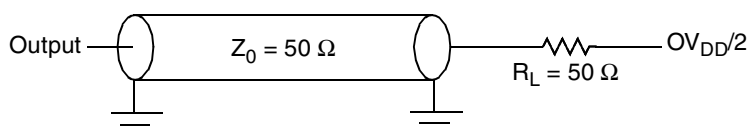

Figure 14. Local Bus C Test Load
Figure 14 provides the AC test load for the local bus.
1. All outputs are measured from the midpoint voltage of the falling/rising edge of  $t_{TCLK}$  to the midpoint of the signal in question. The output timings are measured at the pins. All output timings assume a purely resistive 50- $\Omega$  load (see Figure 14). Time-of-flight delays must be added for trace lengths, vias, and connectors in the system.
2. The symbols used for timing specifications follow the pattern of  $t_{(first\ two\ letters\ of\ functional\ block)(signal)(state)(reference)(state)}$  for inputs and  $t_{(first\ two\ letters\ of\ functional\ block)(reference)(state)(signal)(state)}$  for outputs. For example,  $t_{JTDVXH}$  symbolizes JTAG device timing (JT) with respect to the time data input signals (D) reaching the valid state (V) relative to the  $t_{JTG}$  clock reference (K) going to the high (H) state or setup time. Also,  $t_{JTDVXH}$  symbolizes JTAG timing (JT) with respect to the time data input signals (D) went invalid (X) relative to the  $t_{JTG}$  clock reference (K) going to the high (H) state. Note that, in general, the clock reference symbol representation is based on three letters representing the clock of a particular functional. For rise and fall times, the latter convention is used with the appropriate letter: R (rise) or F (fall).